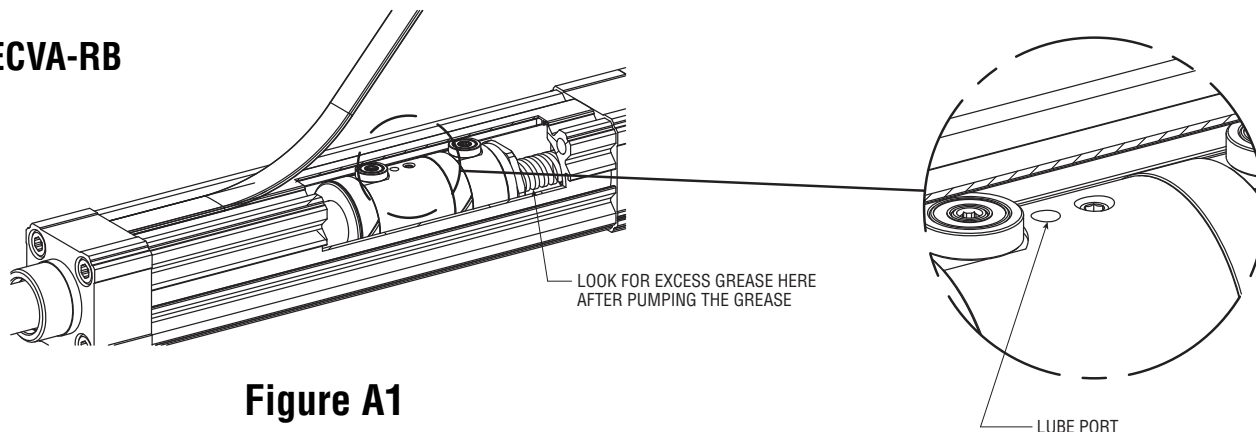

Figure A1
1. Remove the SLOT COVER or LUBE PLUG from the cylinder (Figure A1).
1. Remove the SLOT COVER or the LUBE PLUG from the cylinder (Figure A1).
- NON-ROTATING (ECVA) UNITS: Fully retract the cylinder and remove the CAP END FHCS in the anti-rotation key. (Figure A1)